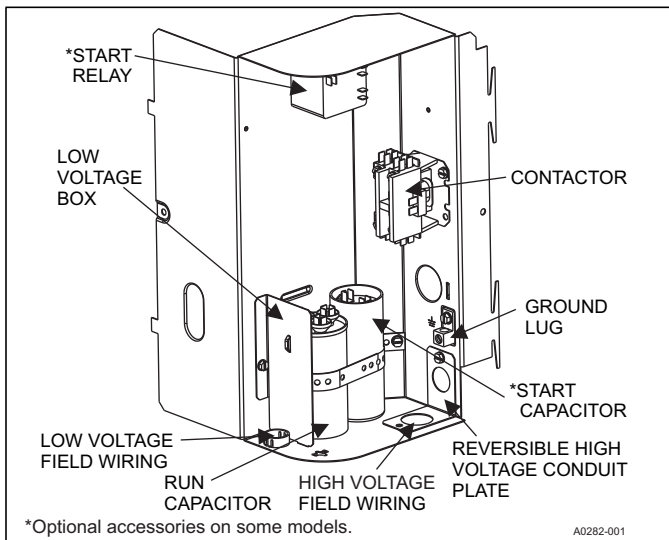
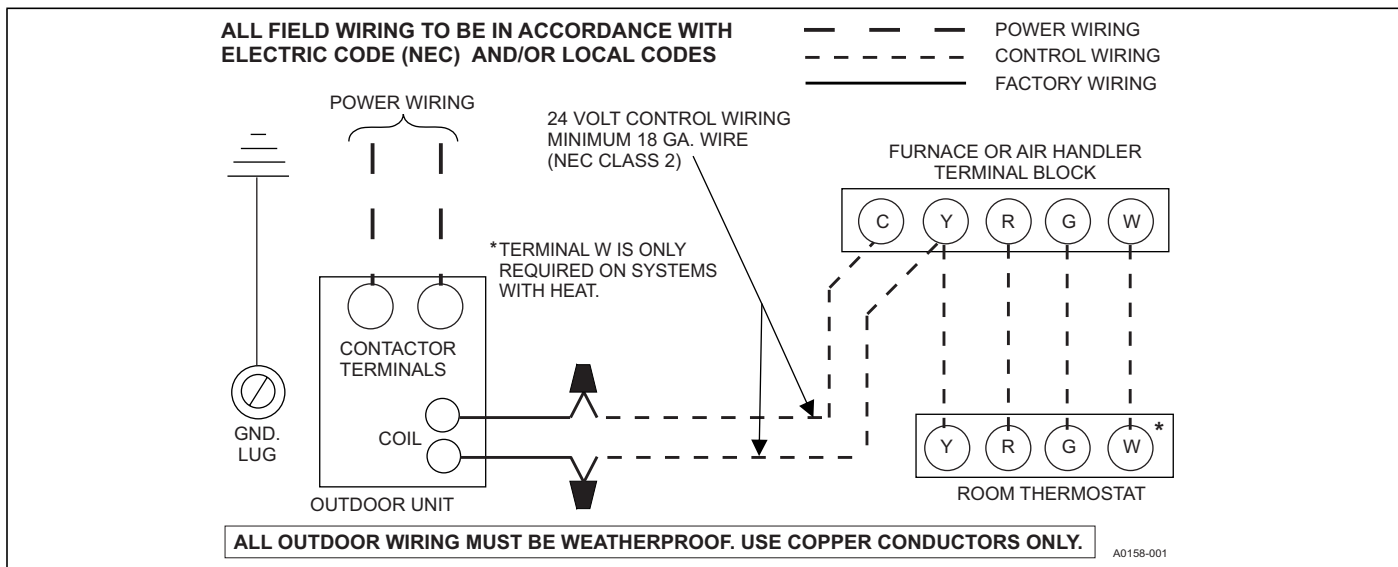

FIGURE 13: Outdoor Unit Control Box (Single Phase - Smaller Base)
FIGURE 16: Typical Field Wiring (Air Handler / Electrical Heat) (Single-Phase)
1. Route low voltage wiring into bottom of control box as shown in Figure 13, 14 or 15. Make low voltage wiring connections inside the low voltage box per Figure 16.